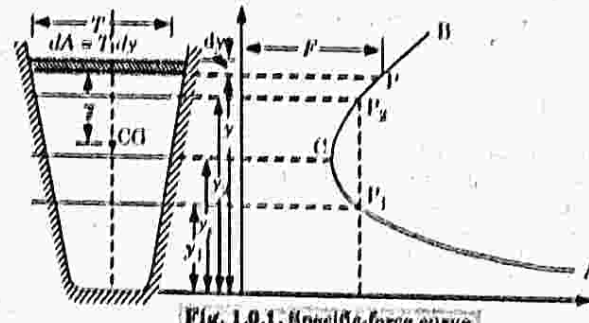

Fig. 1.9.1. Specific-force curve.
- Since Q is constant and both A and \bar{z} are the functions of y . As shown in Fig. 1.9.1 for a change dy in the depth, the corresponding change $d(A\bar{z})$ in the moment of the cross-sectional area about the free surface